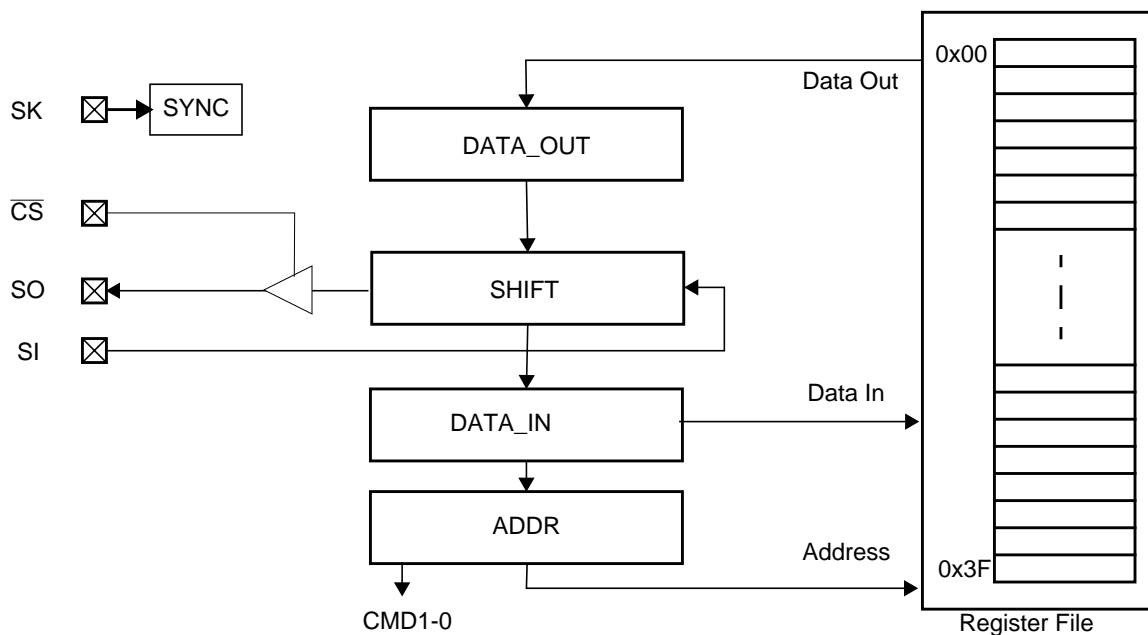

Figure 14. MICROWIRE/PLUS Interface Block Diagram
The MICROWIRE/PLUS interface allows the device to function as a CPU or microcontroller peripheral via a serial interface. This mode is selected by pulling the MODE1 pin high and the MODE0 pin low. The MICROWIRE/PLUS mode uses the chip select (\overline{CS}), serial clock (SK), serial data in (SI) and serial data out (SO) pins, as shown in Figure 14.